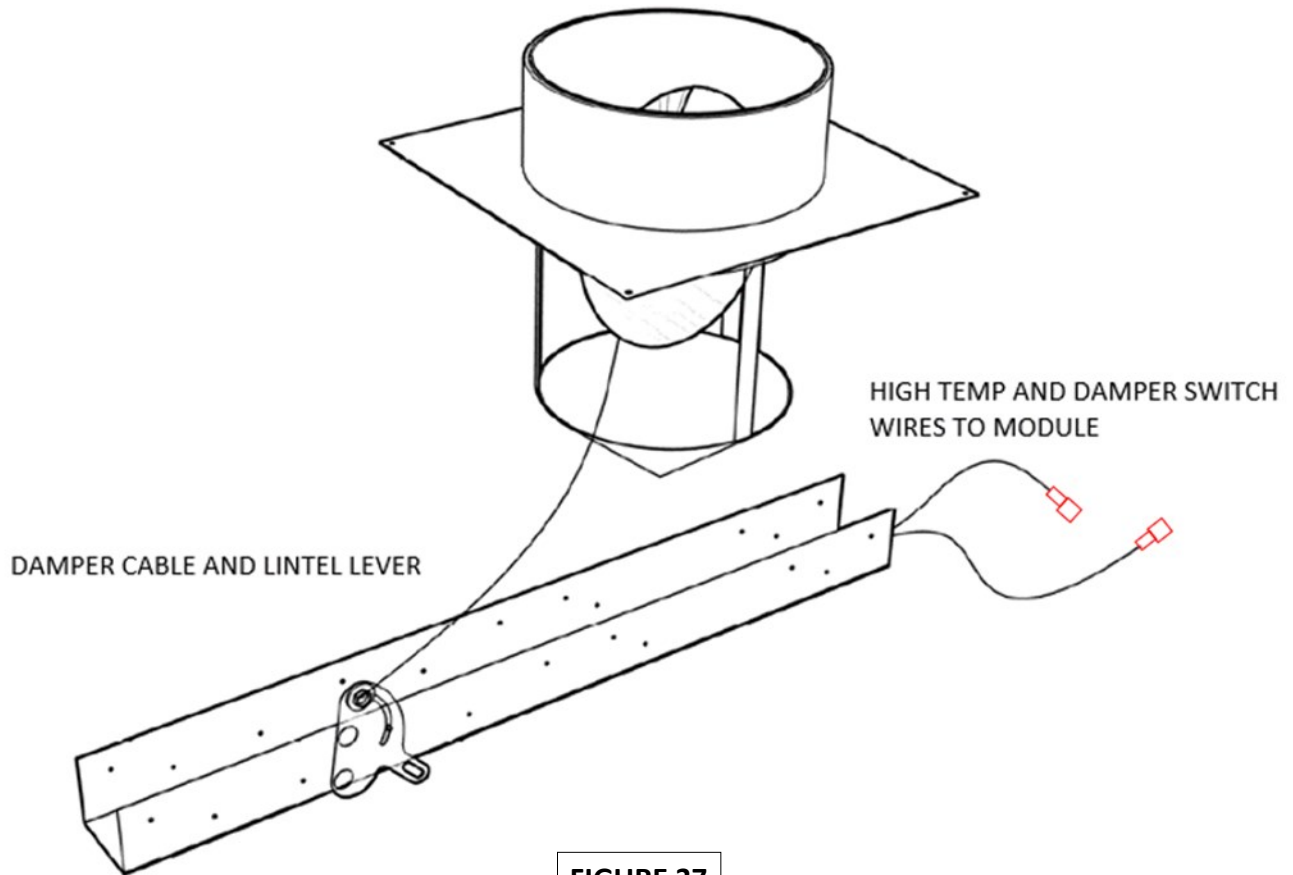

FIGURE 37
5. Plug the spade connectors into the module according to the wiring diagram (**Figures 37, 38 & 39**), insert the pilot tubing into the right side of the valve and, using a wrench, tighten the nut so that the pilot tubing cannot be pulled out.